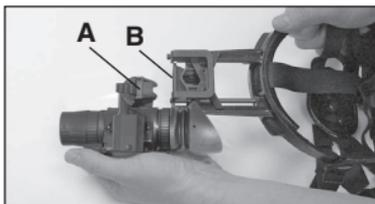

Figure 3.9
2. Align the adapter and the head/helmet mount. Slide the monocular rearwards until the alignment boss (Figure 3.9, A) aligns with the alignment groove (B) on the head/helmet mount. Push until the monocular locks into the head/helmet mount.